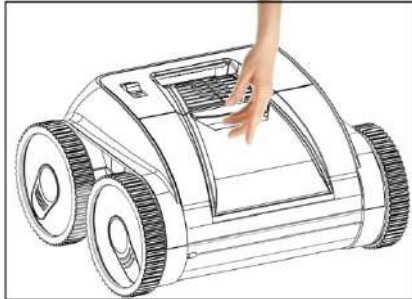
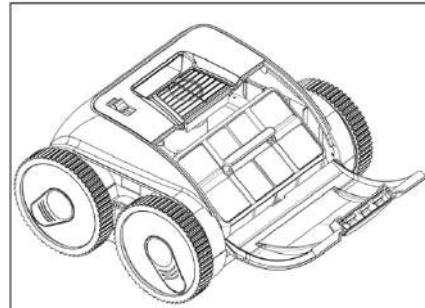

Figure 4-1
Figure 4-2
4.3.1 Open the top cover: Put the robot aside the pool and open the top cover (Figure 4-1), the filter basket is located as show in Figure 4-2.